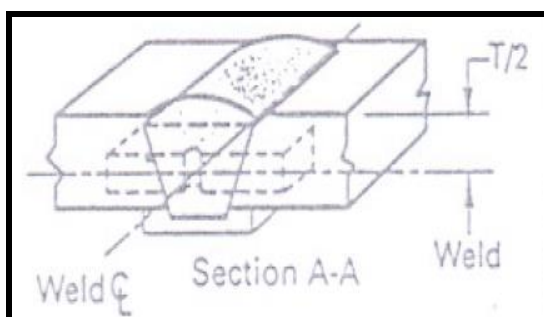
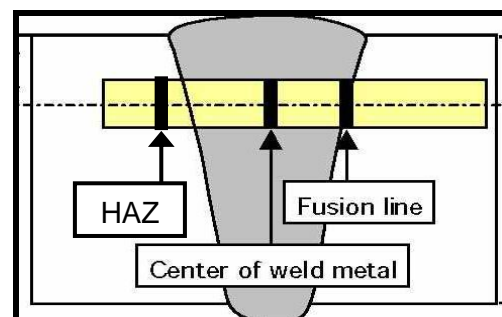
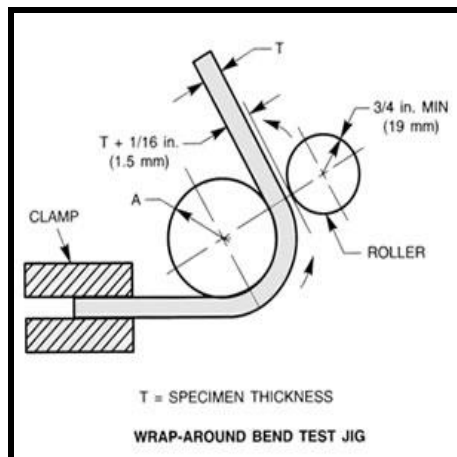

Figure-9: Schematic location of impact test piece in AWS all-weld assembly.
Figure-10: Schematic location of notch in a butt-weld assembly.
Figure-15: Photograph of wrap-around guided bend test jig.
The notch location of test piece is very critical. For weld metal it is taken along the centre-line of the weld (figure-9). Sometimes for the evaluation of fusion line and HAZ behaviour in a butt-weld assembly, notch is done along the fusion line and 2mm away from the fusion line respectively (figure-10).
5.2 Guided-Bend Test – This test is done to determine the quality of weld metal at the face and root of a welded joint. This test is made in a specially designed jig. The location of test pieces is shown in figure-10 and the jigs of guided bend test are shown in figure-15 & 16.